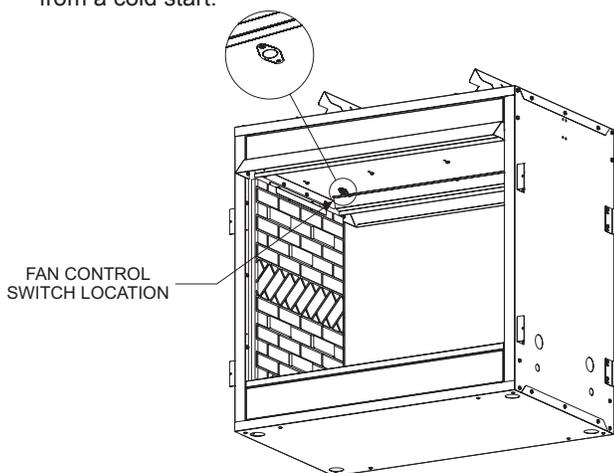

Figure 15
6. Next, find the fan control switch and wire assembly. Feed the wires through the hole at the top of the firebox. Feed the wires over the firebox top and down between the firebox side and outer wrap then, secure the fan control switch with (2) #6 screws provided. **See Figure 15.**